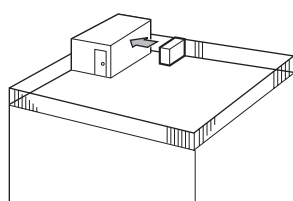

Fig. 2-2
- ① Face the air outlet towards the nearest available wall about 20" (500 mm) away from the wall. (Fig. 2-2)